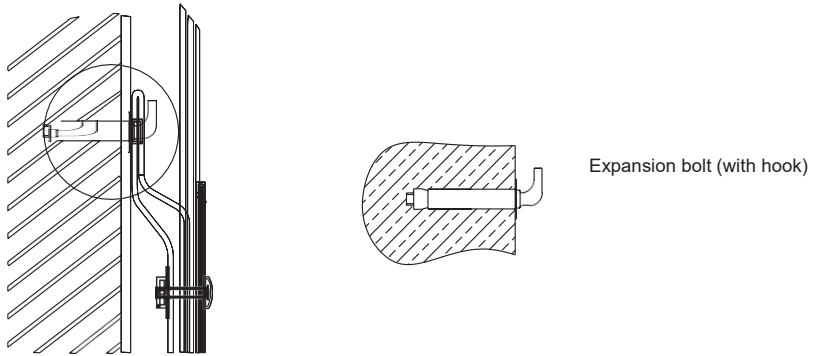

Fig.3
- ① This electrical water heater shall be installed on a solid wall. If the strength of the wall cannot bear the load equal to two times of the total weight of the heater filled fully with water, it is then necessary to install a special support. In case of hollow bricks wall, fill with cement concrete completely.
- ② After selecting a proper location, determine the positions of the two install holes used for expansion bolts with hook, Drill two holes in the wall with the corresponding depth by using a chopping bit with the size matching the expansion bolts attached with the machine, insert the screws, make the hook upwards, tighten the nuts to fix firmly, and then hang the electrical water heater on it (see Fig.3).